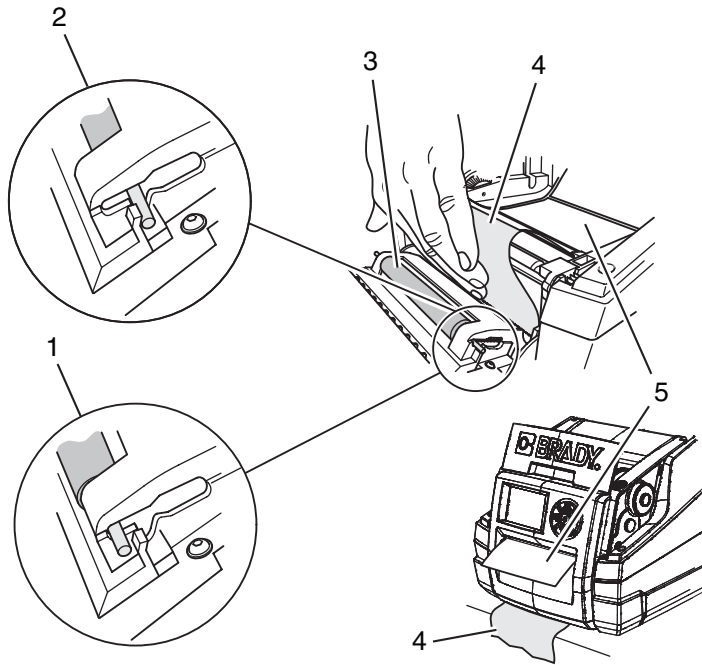

Figure 23, Peel-Off Mode
3. Press on the metal pins at each end of the pressure roller (**Figure 23, 3**) and slide the roller from the disengaged position (**Figure 23, 2**) into the engaged position (**Figure 23, 1**).
4. Remove the labels (**Figure 23, 5**) from about the first 6 inches (152.4 mm) of the label backing (**Figure 23, 4**).
5. Feed the label backing (**Figure 23, 4**) out between the control panel and the printer.